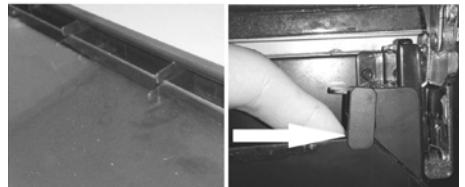

Fig. 4
6. The inner and the middle glass must be placed properly in the cut outs in the upper plastic cover (see Fig. 4).